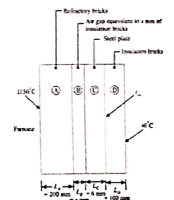

Fig. 3
- (ii) What is the temperature of the outer surface of the steel plate? Ref. Fig. 3.